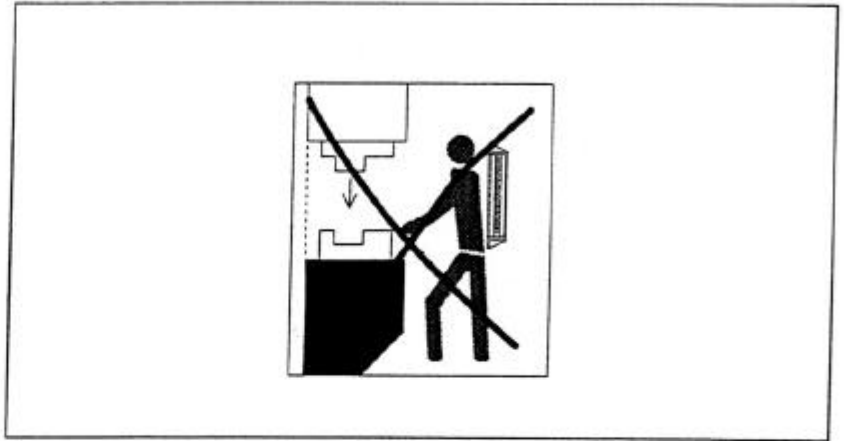

Figure 4-3 Danger of stepping-behind the sensing zone
3. No-one is allowed to stand between the sensing zone and the danger point (Figure 4-3).